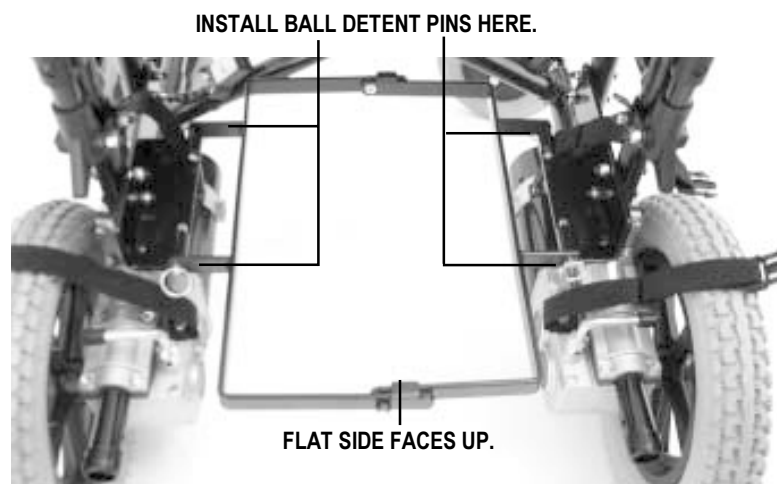

Figure 5. Battery Tray Installation
4. Install the battery tray. See figure 5. Make sure the tabs are facing upwards so that the middle of the tray can only fold up.